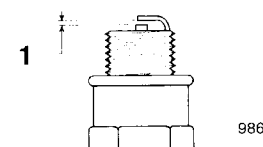

Figure 36
5. Set the gap on the plug at 0.030 inch (0.76 mm) (Fig. 36).